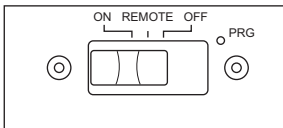

Figure 30 - Remote Selector Switch in ON Position
- Wait one minute and switch selector switch to the ON position to light burners (see Figure 30). When using in the ON position (without remote) burners will light on high. There is no adjustment to the flames without using remote.